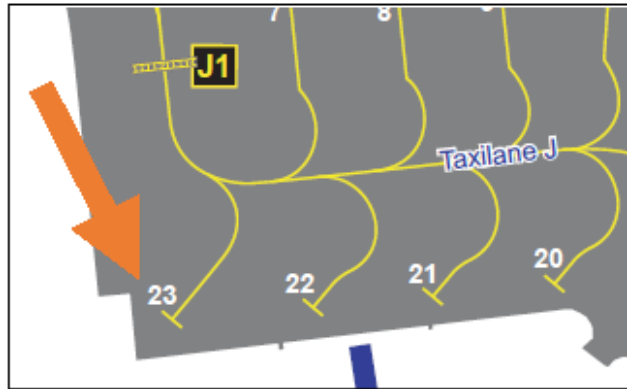

Figure 1 – Location of Stand 23
- 3.1 The only available remote stand which can be utilised for this procedure is Stand 23 (Figure 1).